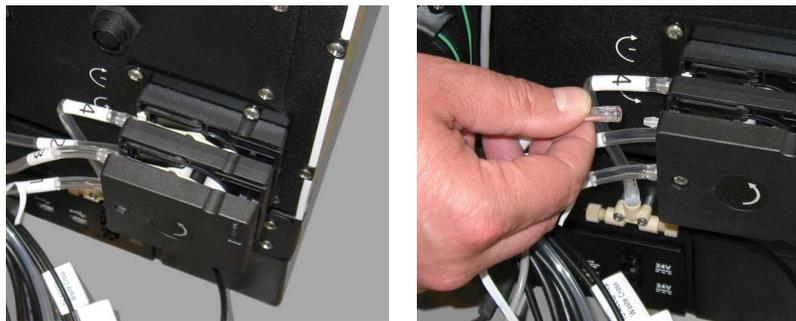

Figure 5-21 Disconnecting the clear tubing
2. Disconnect the upper and lower clear tubing from each peristaltic tube (Figure 5-21).